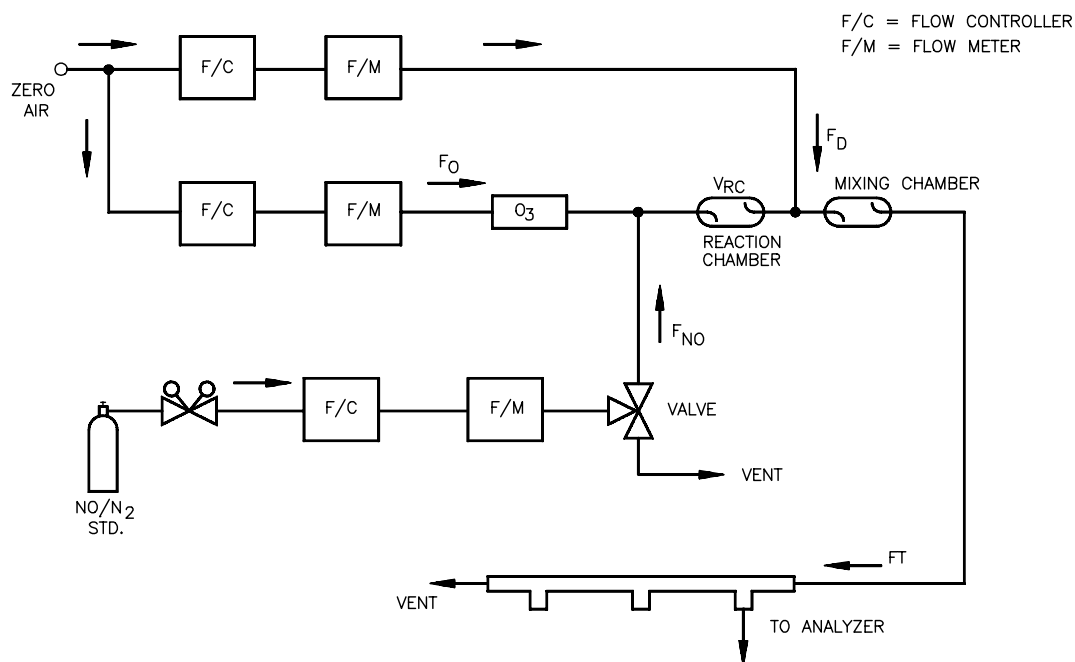

Figure 4-1. GPT System
Figure 4-1 shows the suggested placement of the component parts of a gas phase titration apparatus. All connections between components in the system should be made with glass, Teflon®, or other nonreactive material.
The O₃ generator air flow rate and the NO flow rate (see Figure 4-1) must be adjusted such that the following relationships hold:
1. Assemble a dynamic calibration system such as the one shown in Figure 4-1.
3. Precautions should be taken to remove O₂ and other contaminants from the NO pressure regulator and delivery system prior to the start of calibration to avoid any conversion of NO to NO₂. Failure to do so can cause significant errors in calibration. This problem can be minimized by (1) carefully evacuating the regulator after the regulator has been connected to the cylinder and before opening the cylinder valve; (2) thoroughly flushing the regulator and delivery system with NO after opening the cylinder valve; and (3) not removing the regulator from the cylinder between calibrations unless absolutely necessary.